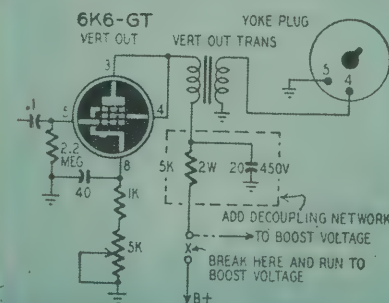

Fig. 11—Getting more vertical sweep another way; decoupling is still necessary.
3. If this additional voltage fails to provide sufficient vertical sweep, then connect the B-plus side of the primary of the vertical output transformer to the boost voltage as shown, Fig. 11.